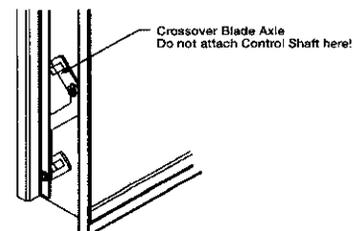

Figure 2 — Crossover Blade Axle
SQUARE (See Figure 2)
**NOTE:** Always attach extended control shaft to a blade axle which is directly connected to the main linkage tie bar. Do not attach to a crossover blade. Refer to Figure 2.